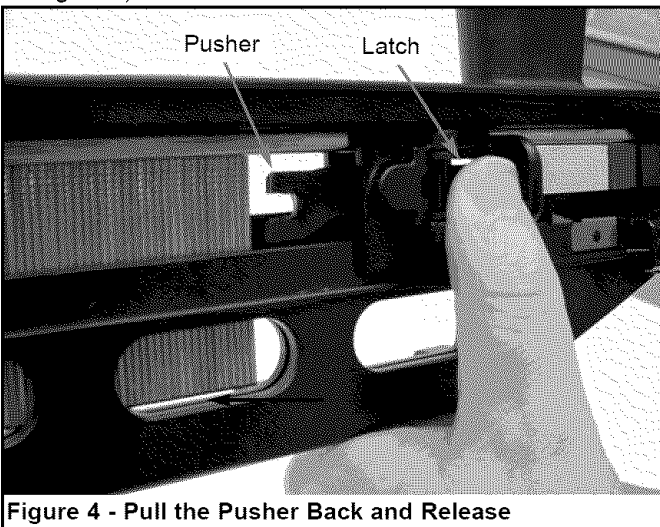

Figure 4 - Pull the Pusher Back and Release
- Depress the latch on the pusher and pull the pusher completely behind the nail strip. Release the latch and the nail strip will be pushed to the front of the magazine (see Figure 4).